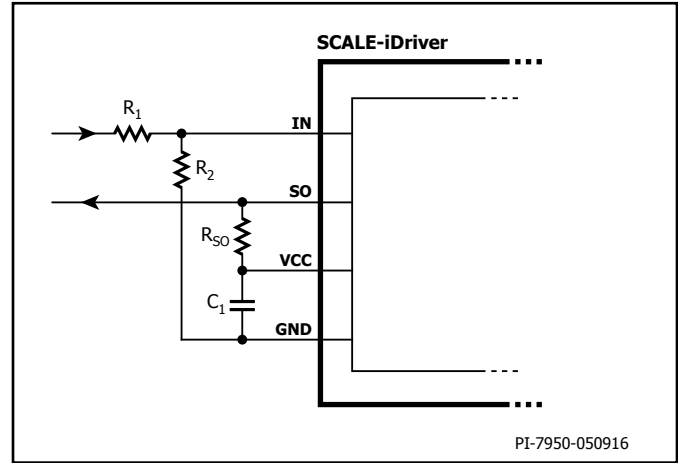
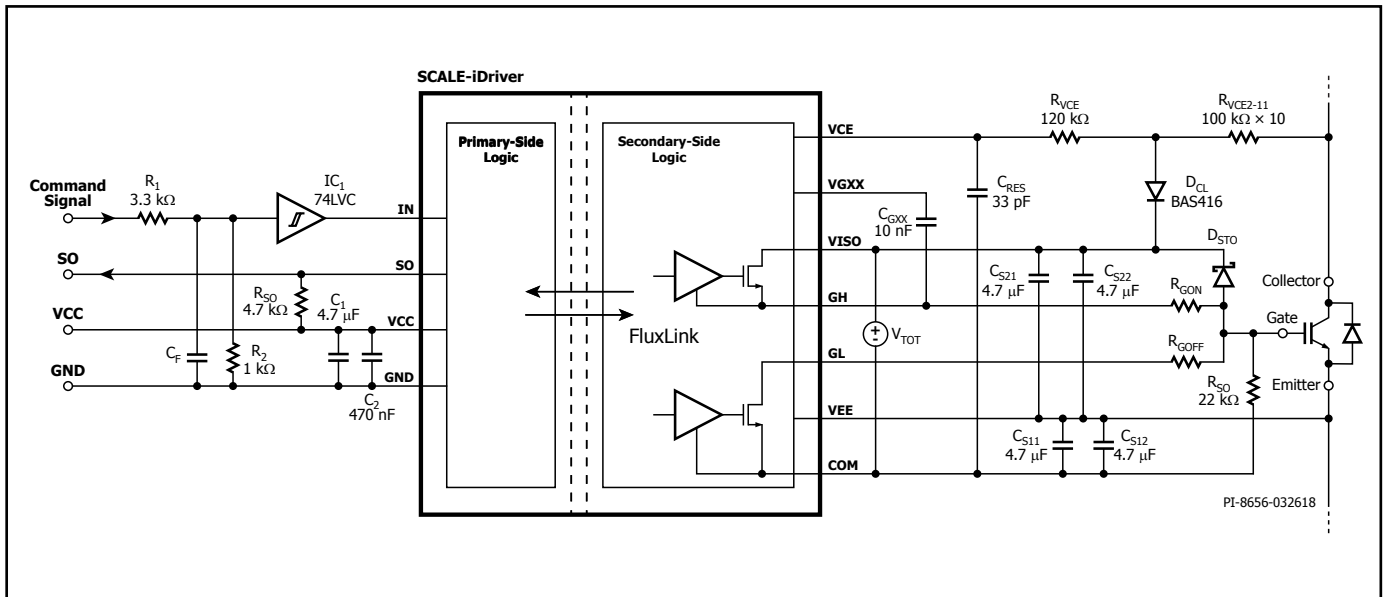

Figure 5. Increased Threshold Voltages V_{IN+LT} and V_{IN+HT} For $R_1 = 3.3 \text{ k}\Omega$ and $R_2 = 1 \text{ k}\Omega$ the IN Logic Level is 15 V.
Figure 13. SCALE-iDriver Application Example Using a Resistor Network for Desaturation Detection.
The input (IN) and output (SO) logic is designed to work directly with micro-controllers using 5 V CMOS logic. If the physical distance between the controller and the SCALE-iDriver is large or if a different logic level is required the resistive divider in Figure 5, or Schmitt-trigger ICs (Figures 13 and 14) can be used. Both solutions adjust the logic level as necessary and will also improve the driver's noise immunity.
and power-down. Any supply voltage related to VCC, VISO, VEE and VGXX pins should be stabilized using ceramic capacitors C_{1f} , C_{S1Xf} , C_{S2Xf} , C_{GXX} respectively as shown in Figures 13 and 14. After supply voltages reach their nominal values, the driver will begin to function after a time delay t_{START} .
Figures 13 and 14 show the schematic and typical components used for a SCALE-iDriver design. In both cases the primary-side supply voltage (V_{VCC}) is connected between VCC and GND pins and supported through a supply bypass ceramic capacitor C_1 (4.7 μ F typically). If the command signal voltage level is higher than the rated IN pin voltage (in this case 15 V) a resistive voltage divider should be used. Additional capacitor C_F and Schmitt trigger IC_1 can be used to provide input signal filtering. The SO output has 5 V logic and the R_{SO} is selected so that it does not exceed absolute maximum rated I_{SO} current.
Figure 13 shows how switch desaturation can be measured using resistors $R_{VCE2} - R_{VCE11}$. In this example all the resistors have a value of 100 kΩ using 1206 package. The total resistance is 1 MΩ. The resistors should be chosen to limit current to between 0.6 mA to 0.8 mA at maximum DC-link voltage. The sum of $R_{VCE2} - R_{VCE11}$ should be approximately 1 MΩ for 1200 V semiconductors and 500 kΩ for 600 V semiconductors. In each case the resistor string must provide sufficient creepage and clearance distances between collector of the semiconductor and SCALE-iDriver. The low leakage diode D_{CL} keeps the short-circuit duration constant over a wide DC-link voltage range.
Table 2. PCB Layout and Component Guidelines Referring to Figure 13.
Table 2 (cont). PCB Layout and Component Guidelines Referring to Figure 13.